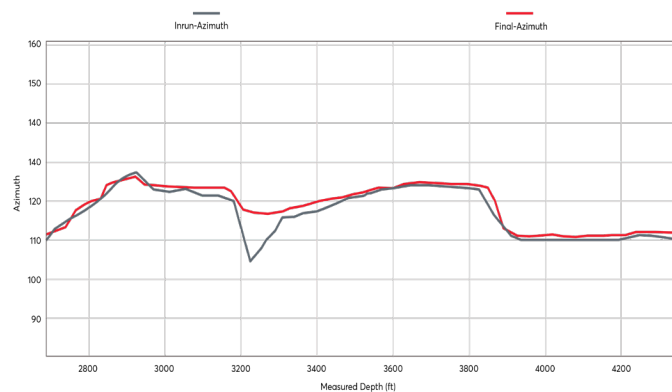

Fig. 2—The erroneous azimuth reading in the MWD data versus the true azimuth as shown with the MicroGuide logs.
- The MicroGuide data revealed that in the upper part of the hole, there was an erroneous azimuth reading on the MWD survey (Fig. 2) that caused an incorrect spike in DLS. Had the operator used this information, they would have incorporated additional equipment at greater cost to traverse the section there not being significant DLS in that area.